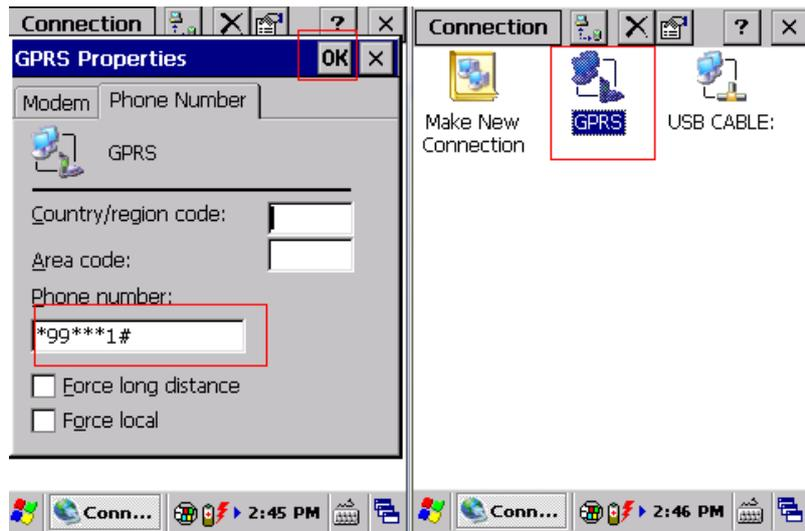

Figure4.4-7 Phone Number Figure4.4-8 GPRS Connection Icon
5) Click Next to Phone Number page, input Phone number ***99***1#** as Figure4.4-7, then click Finish; now you can see the GPRS connection icon as Figure4.7-8;